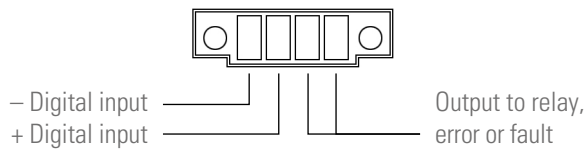

Fig. 15. Digital input/output to relay connector.
- The device has a four-terminal connector for a digital input and output to relay (see Fig. 15).
- Error or fault dry contact. Any error or fault, such as those described in Tab.13, will modify the state of the normally open (NO) 24V DC 1A contact. (PAY ATTENTION to the voltage and current applied).